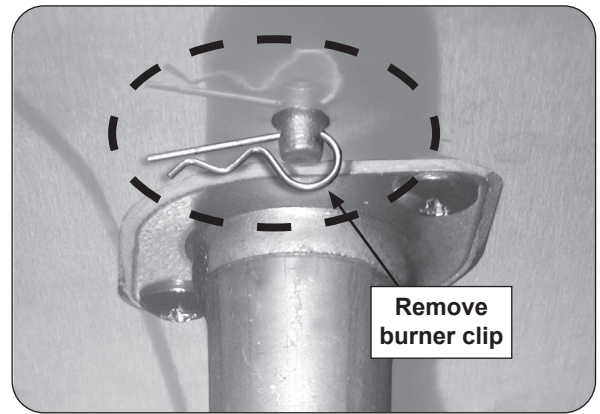

Fig. 37-1 Remove burner clip
3. Reach up under the burner support and remove the burner retaining clip (see Fig. 37-1), located at the rear of the burner pipe.
7. Replace the burner retaining clip (underneath burner). Reference Fig. 37-1.